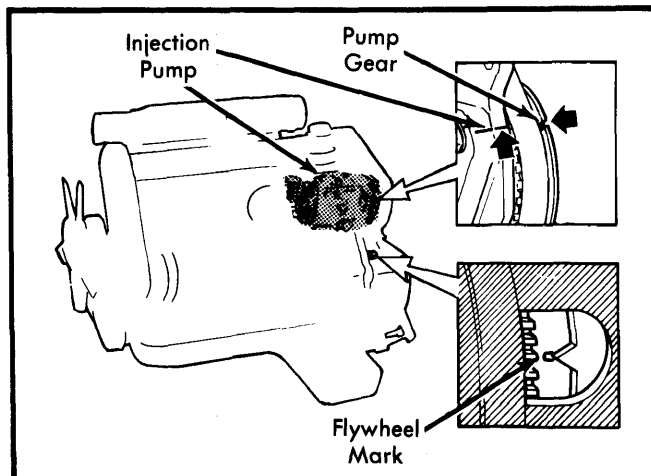

Fig. 8 Aligning Timing Marks Prior to Fuel Injection Pump Removal
3) Remove vacuum pump and pump plunger. Remove injection pump delivery pipes. Plug all openings. Set cylinder No. 1 at TDC and injection. See Fig. 8. Timing marks should align.
2) Set cylinder No. 1 at top dead center and injection. See Fig. 8. Both cam lobes should point up at equally large angles. Flywheel timing mark should be at "0".